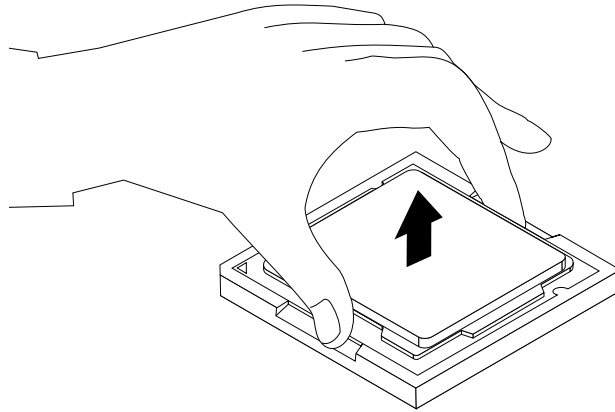

Figure 22. Removing the microprocessor
5. Lift the microprocessor straight up and out of the microprocessor socket, as shown in Figure 22 “Removing the microprocessor” on page 28.